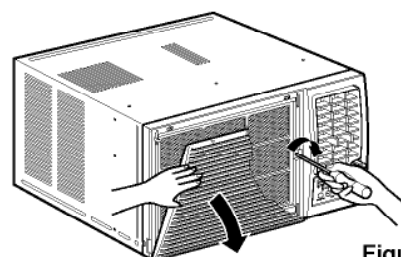

Figure 33
3. Lift the inlet grille and secure it with a type A screw through the front grille. (See Figure 33)